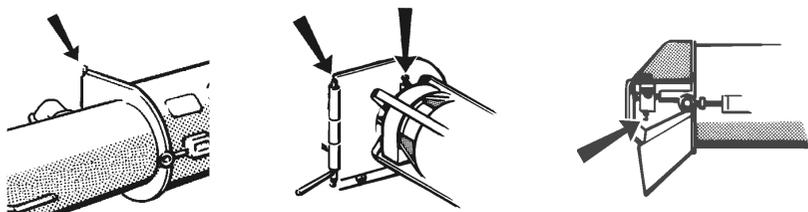

Fig. 15: Securing pin    Motor and securing pin    Bearing cover
- Lubricate the grease points every 4 to 6 weeks with a high-pressure grease gun (1 or 2 shots) and bearing grease (fig. 15)